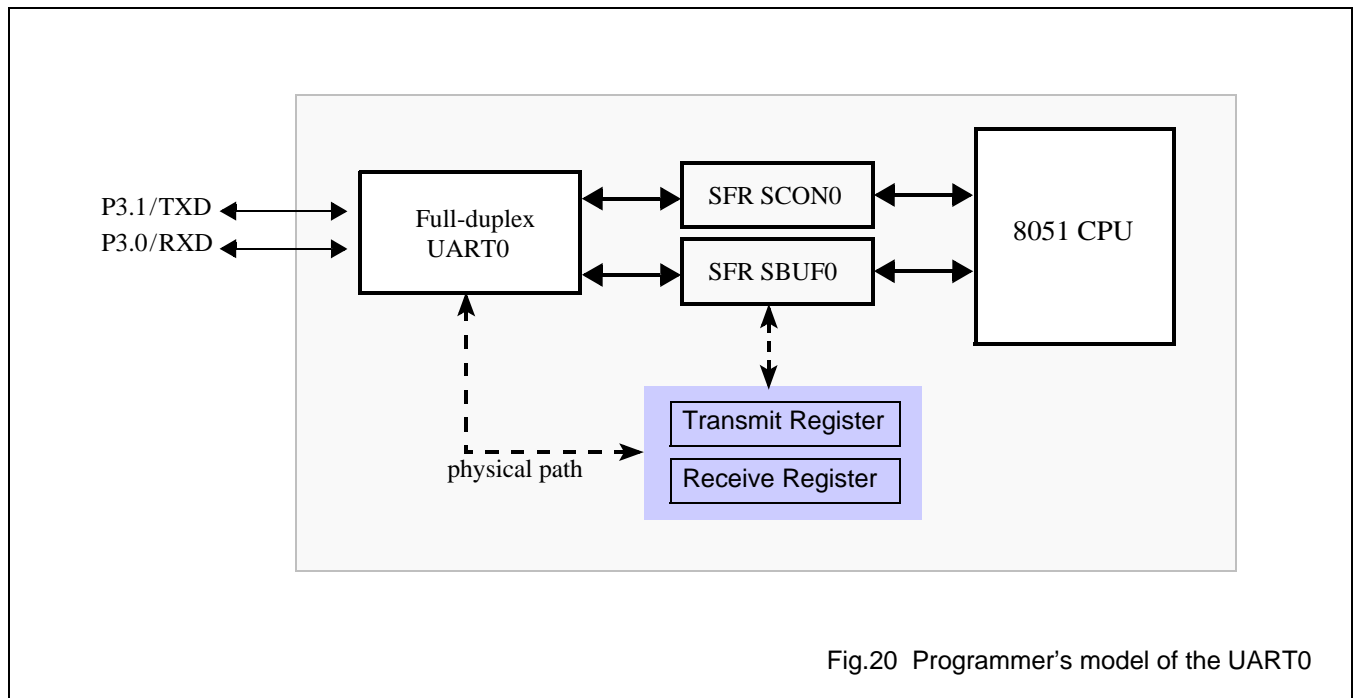

Fig.20 Programmer's model of the UART0
A programmer's model of the UART0 is shown in Fig.20.
7. If the above conditions are met, then the UART0 moves the received data byte from the temporary Receive Register (please refer to Fig.20) to SFR SBUF0, moves the received stop bit to the RB8 bit of SFR SCON0, and set RI0 bit to HIGH, triggering an UART0 data reception interrupt. If the above conditions are not met, the received data is ignored and the receive session is aborted.